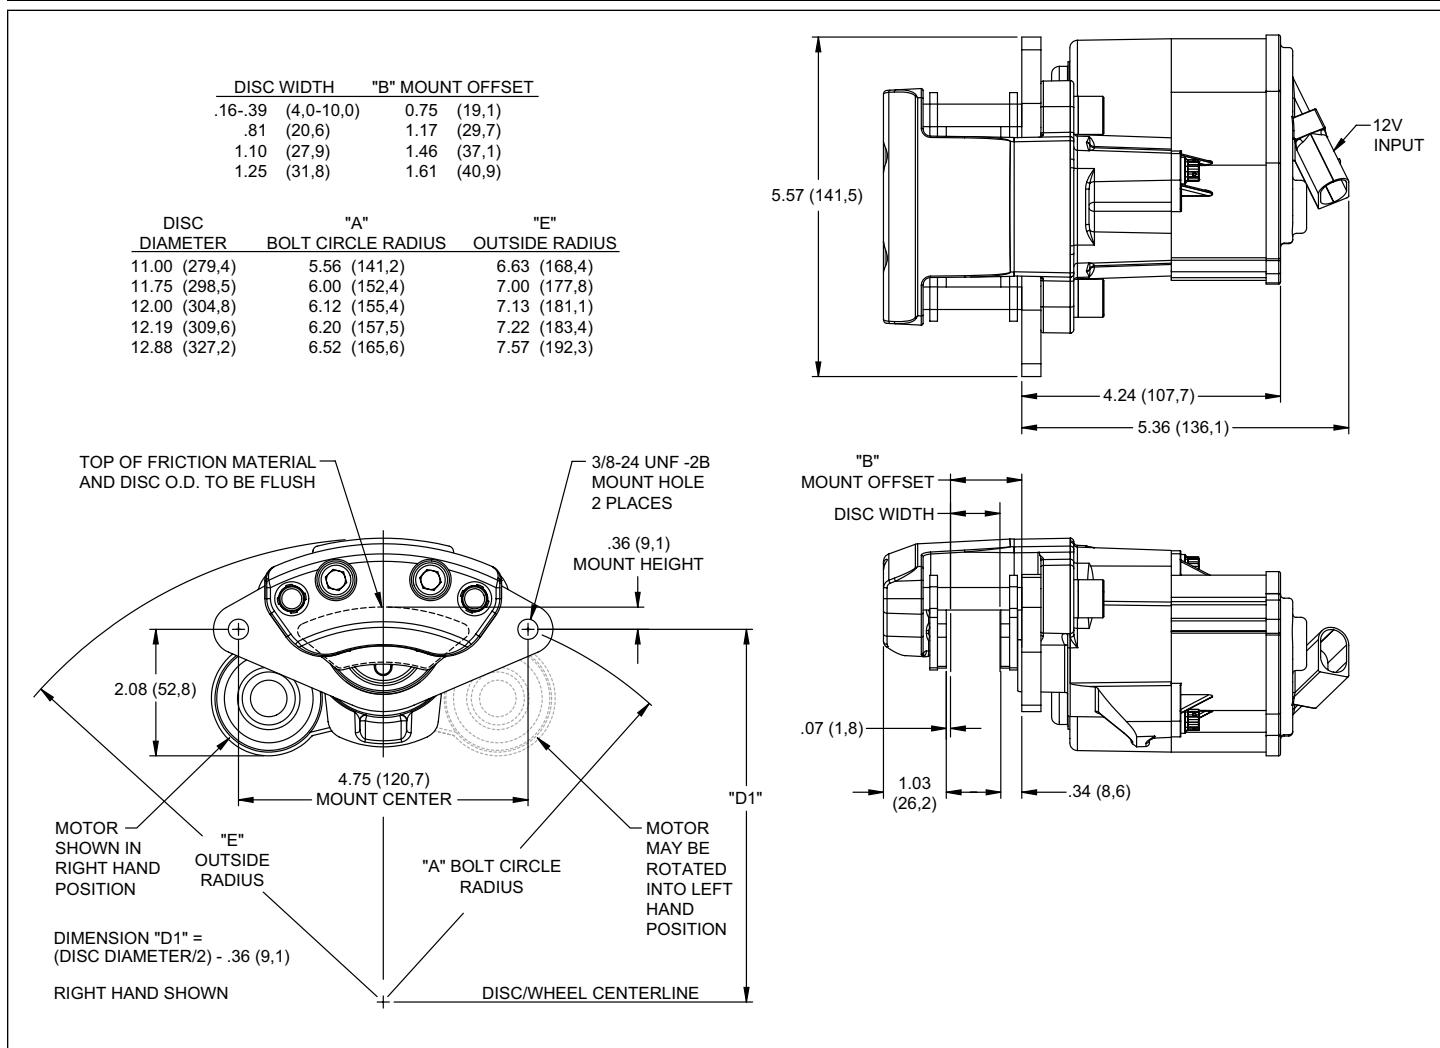

Figure 3. EPB Caliper
- EPB CALIPER - EPB calipers are not vehicle specific but are available left or right handed. The caliper motor may be rotated from right to left hand position (or vice versa) by removing the two mounting screws, repositioning the motor, and reinstalling screws in the new position, Figure 3. Torque screws to 100 **in-lb**. Careful mounting location must be considered to ensure adequate clearance from moving suspension parts and also from the body of the vehicle during full compression of the suspension. See Figure 3 for EPB caliper dimensions.